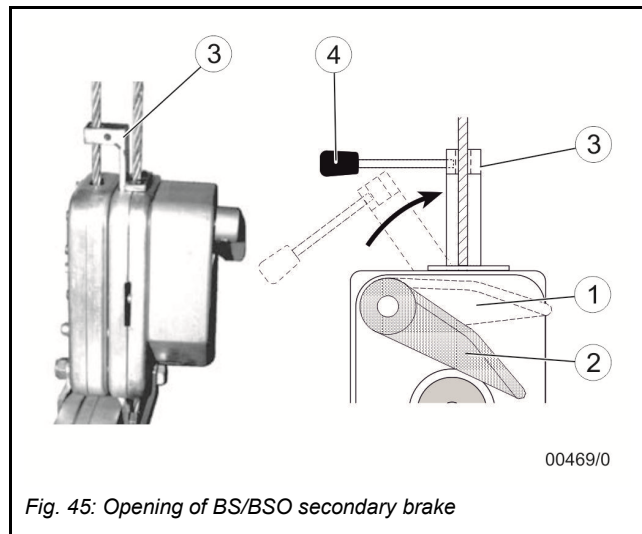
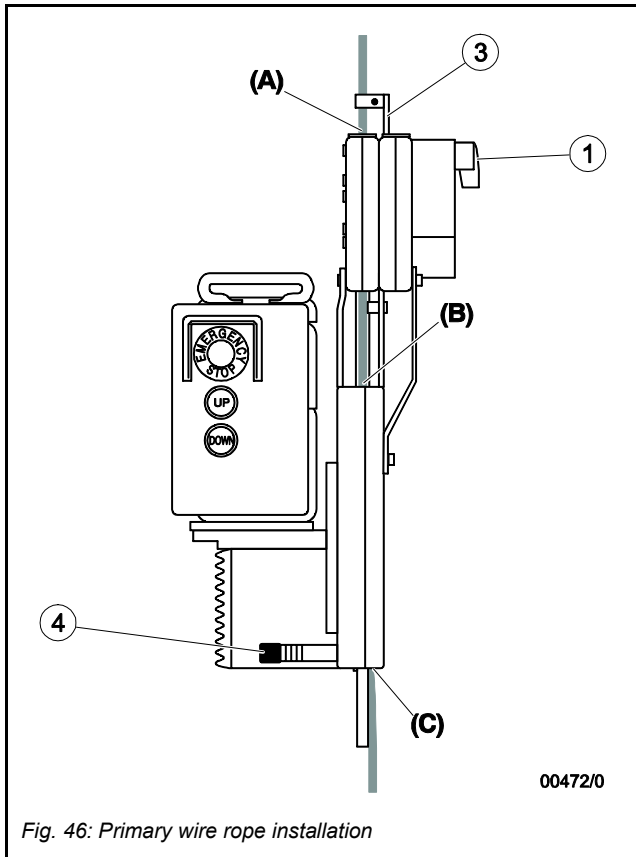

Fig. 45: Opening of BS/BSO secondary brake
Fig. 46: Primary wire rope installation
- (1) Open the BS/BSO secondary brake by pushing down the control lever until it locks (2) (Fig. 45).
- Check that wire rope exit (C) is not blocked in any manner.
- Never load the wire rope exiting from (C).
- (1) With gloved hands slide the rope through release lever hole and push it through the BS/BSO secondary brake at (A) into the hoist rope inlet (B). Push it inside, and press UP button, until the wire rope reeves itself automatically and exits at (C) on the other side (Fig. 46).
- (1) BS/BSO secondary brake should be opened by the primary wire rope under load. Otherwise push and hold release lever (4) in its vertical position (Fig. 45).
**A4.4.1 Secondary wire rope (S)**
- (1) Lower the platform until it almost reaches its safe and stable support. Leave the primary wire rope tensioned so that the release lever (3) of BS/BSO secondary brake is still upright.
- (2) Remove the tensioning weight (5).
- (3) If release lever (3) is not held in its open position by the tensioned primary wire rope, hold it in its open position by using brake release lever (4) according to Fig. 45 to ease operation.
- (4) With gloved hands pull out the secondary wire rope.
**A4.4.2 Primary wire rope (P)**
- (1) Lower the platform to a safe and stable support until each tirak® hoist is unloaded.
- (2) Remove the loop at the free wire rope end.
- (3) Press DOWN button to let the wire rope run out.
As soon as the suspension wire rope is not under load, hold release lever (3) of BS/BSO secondary brake in its open position by using brake release lever (4) according to Fig. 46 to ease operation.
- (4) With gloved hands slowly pull the wire rope through BSO secondary brake.
- (5) Unbolt the hoist from its stirrup or anchor device. Remove from site and store.